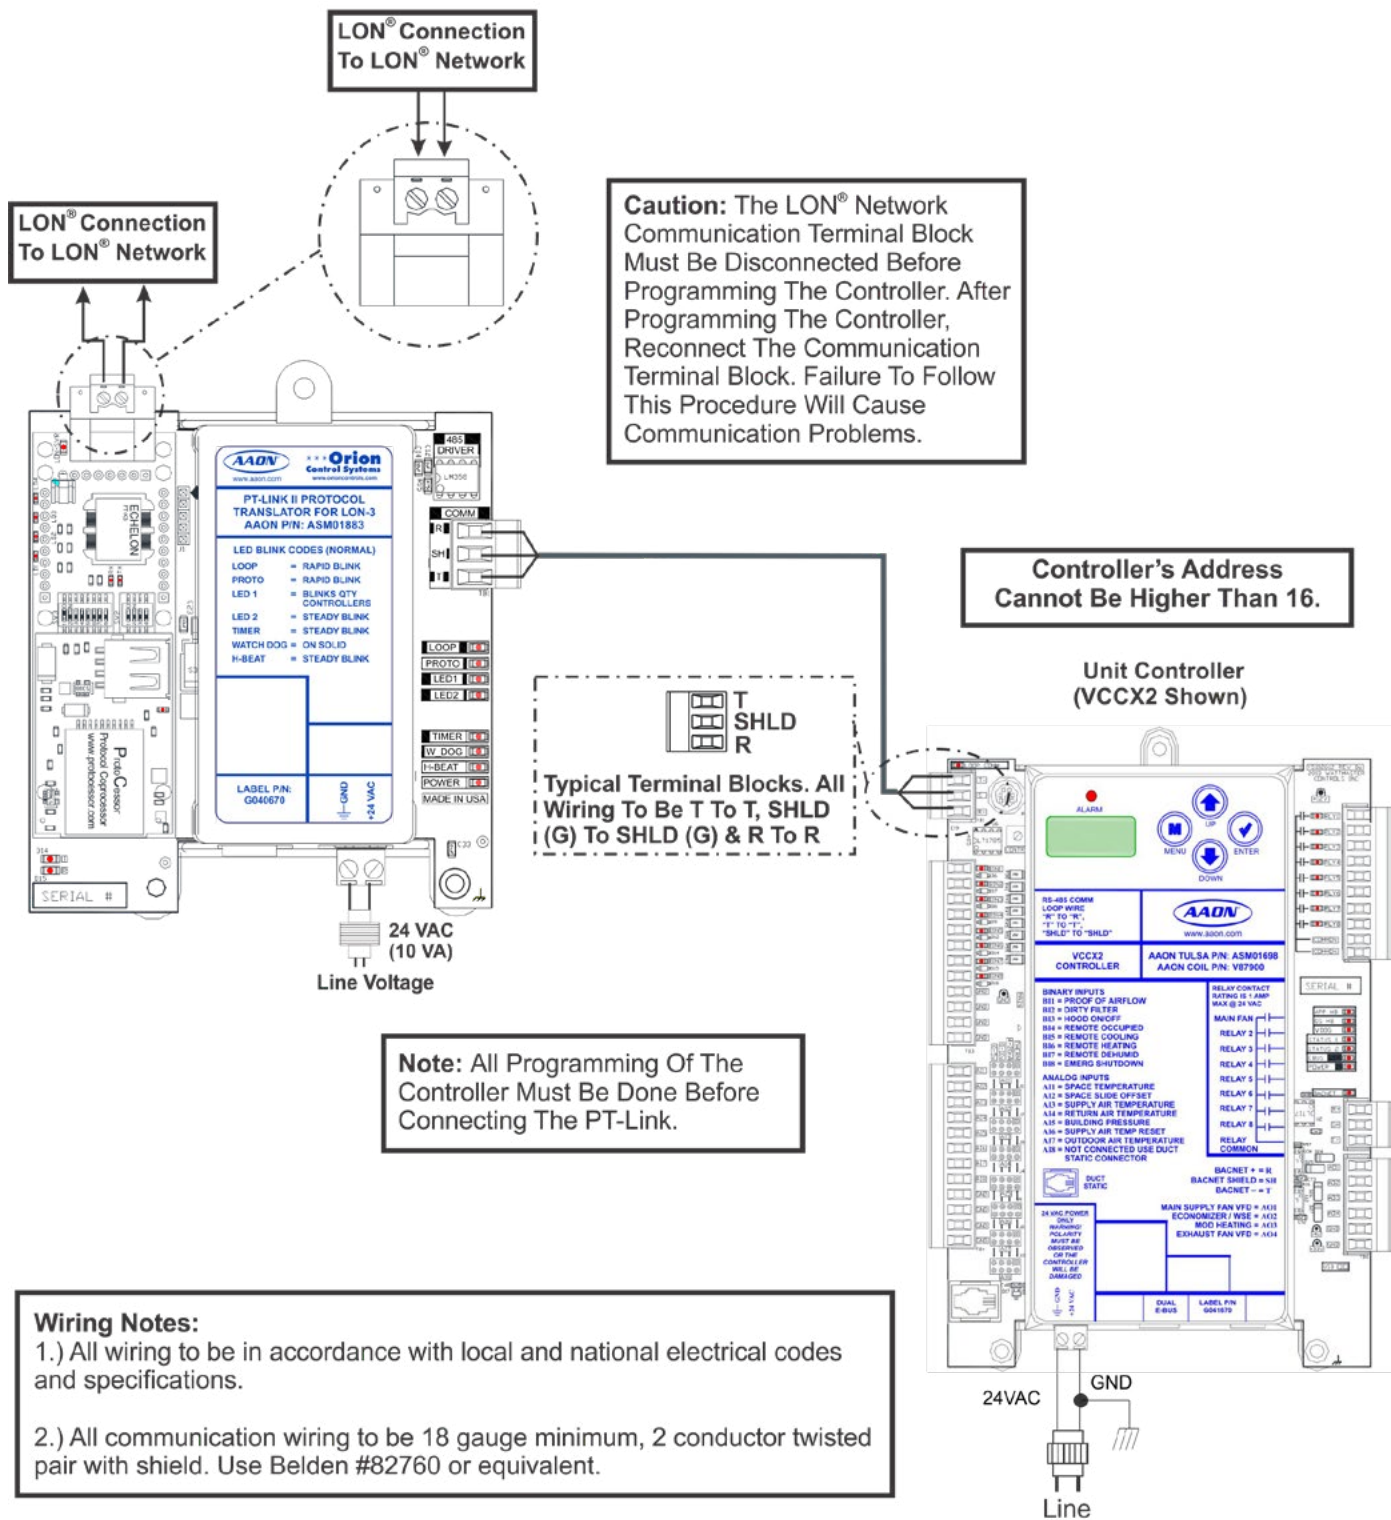

Figure 2: PT-Link II LON-3® Interface Wiring to Unit Controller (VCCX2 Shown)
2. Connect your PT-Link II LON-3[®] to the Unit Controller on your system (only one) and connect your PT-Link II to the LON Network (Figure 2, page 6).